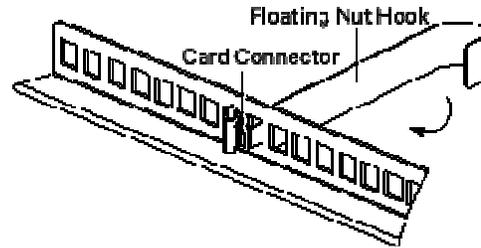

Figure 3-27 Floating Nut Mounting
2. Lead the floating nut hook through the square hole to fasten the fastener on the other side of the floating nut, and gently rotate the floating nut hook to make the fastener totally fixed into the square hole, as shown in Figure 3-27.